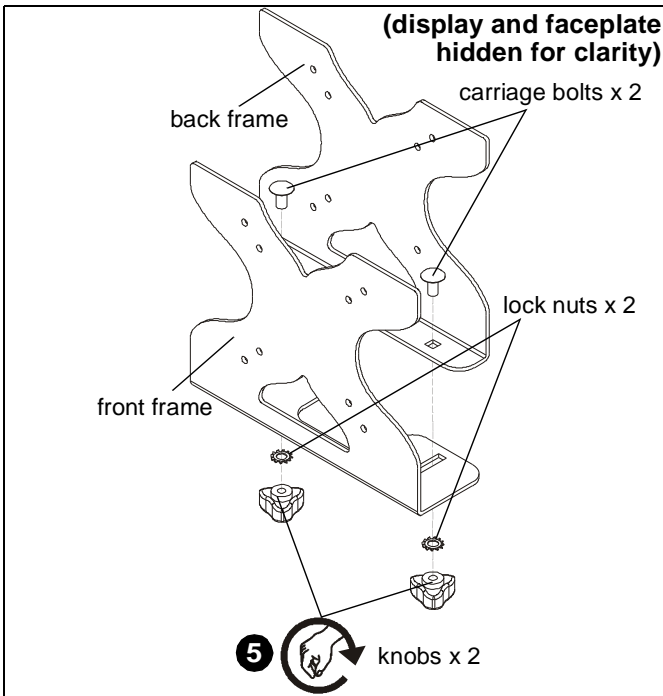

Figure 5
- Use two removed carriage bolts, two removed lock nuts and two removed knobs to reconnect front frame to back frame. (See Figure 5)